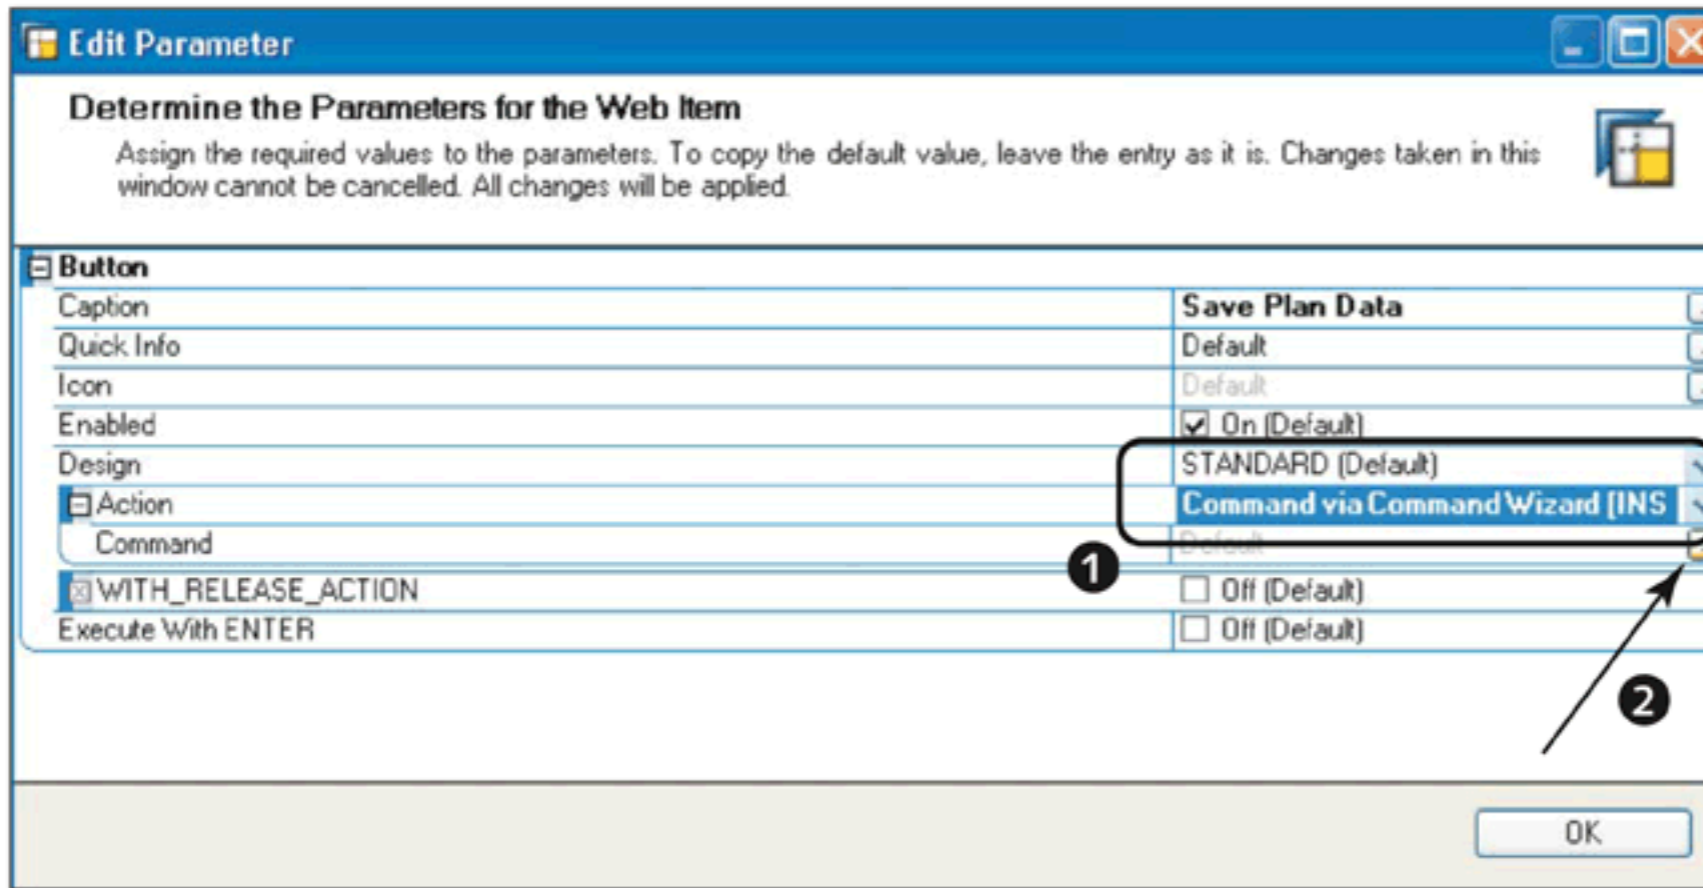

Figure 12.79 Define Button Parameters
Define the new button by maintaining the display caption and other button parameters, as shown in Figure 12.79. The most important part of button configuration is to assign an action to the button. This can be done using the commands from the Command Wizard available in BEx Web Application Designer. Select **COMMAND VIA COMMAND WIZARD** as the action for the button (1), and then click on the button shown in 2 of Figure 12.79 to define the command settings.